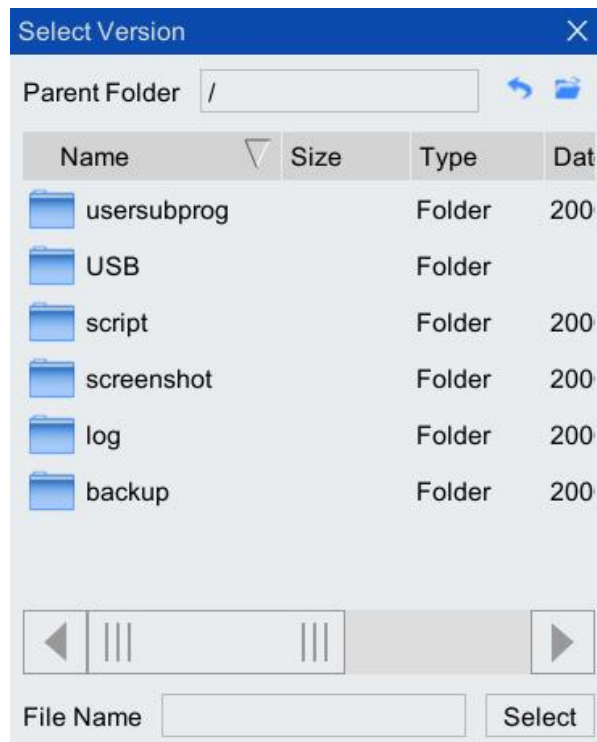

Figure 8-40 "Select Version" interface
Step1. On the main interface of the teach pendant, click "System > System and Update > Software Update" option, and the "Select Version" list box pops up, as shown in Figure 8-40.